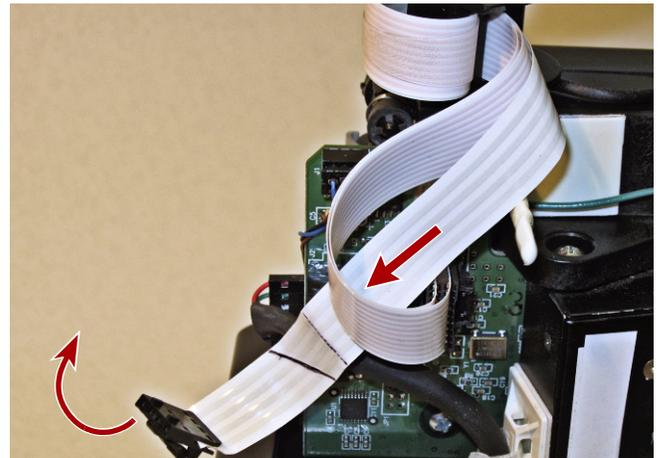

Figure 11. Insert Power Cable Through Signal Cable Loop
- a. With the **Power cable** flat against the Signal cable, insert the Power cable through the Signal cable loop (Figure 11).